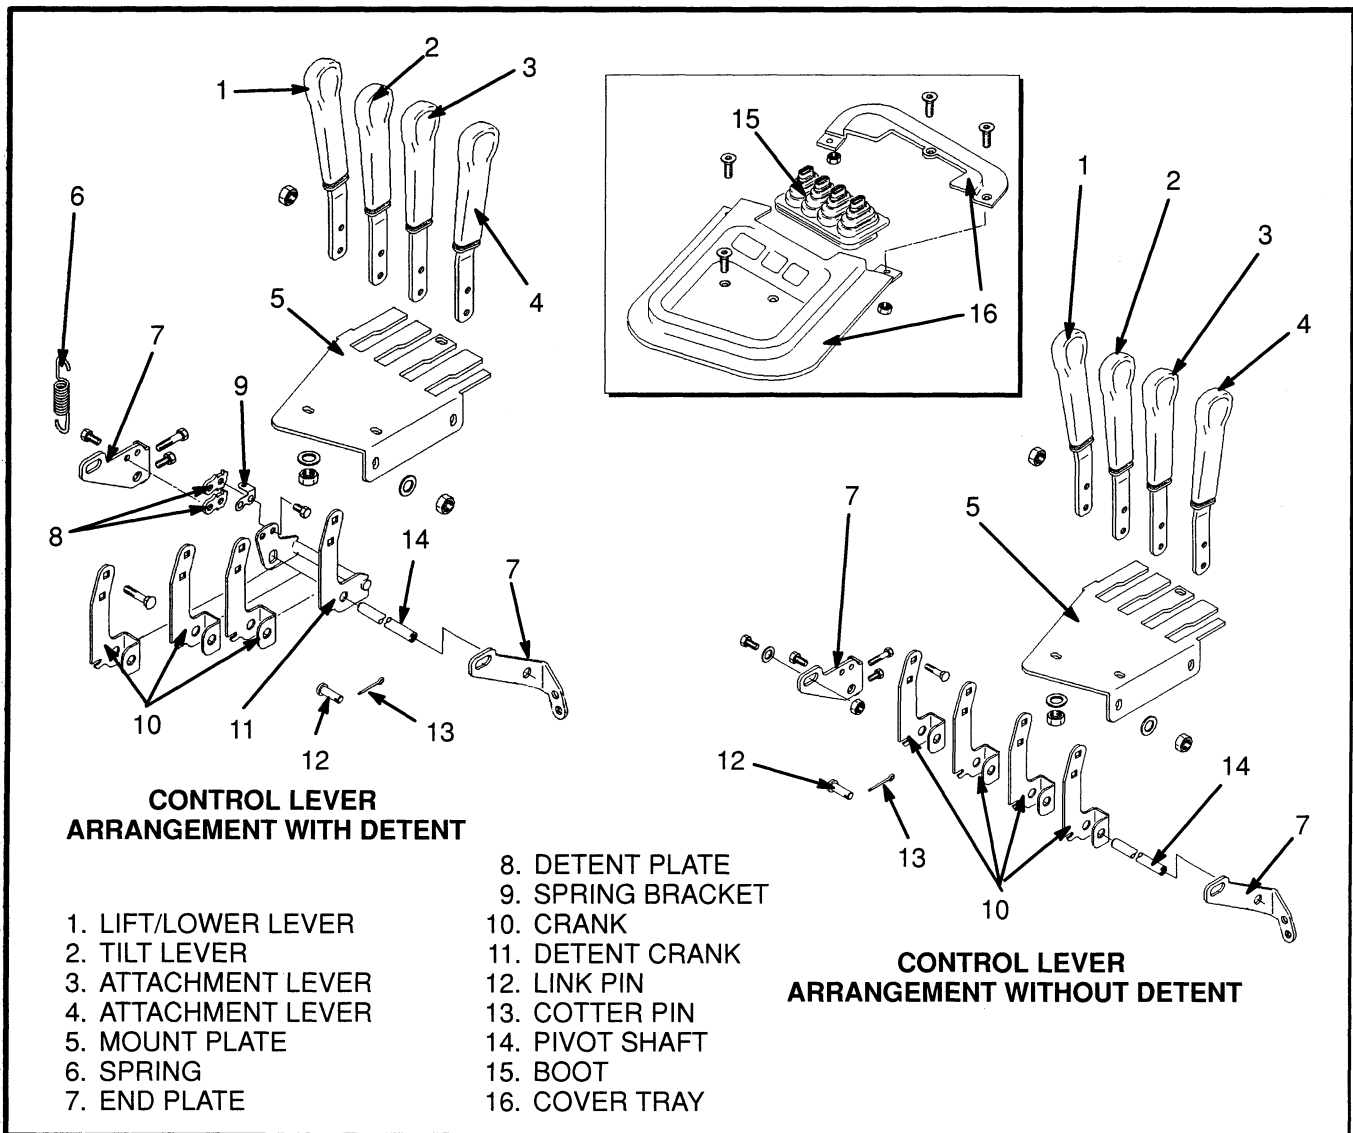

FIGURE 6. LINKAGE FOR CONTROL LEVERS
Removal (See FIGURE 6.)
3. See FIGURE 6. Install the linkage assembly and the mount plate (5). Connect the mount plate to the side strut and end plates (7). Install the spring (6) for the control lever with the detent. Check the operation of the levers. Make sure the levers operate as described at the front of this section.
5. See FIGURE 6. Install the cover tray (16) to the mount plate (5). Make sure the cover trays fit over the